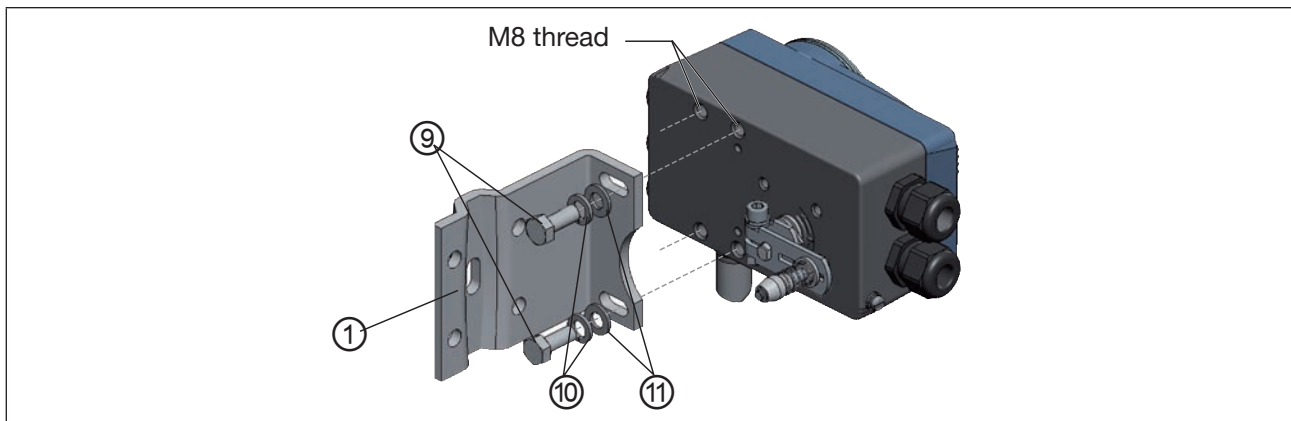

Figure 25: Attaching mounting bracket
→ Attach mounting bracket ① to the back of the positioner with hexagon bolts ⑨, circlip ⑩ and washers ⑪ (see “Figure 25”).